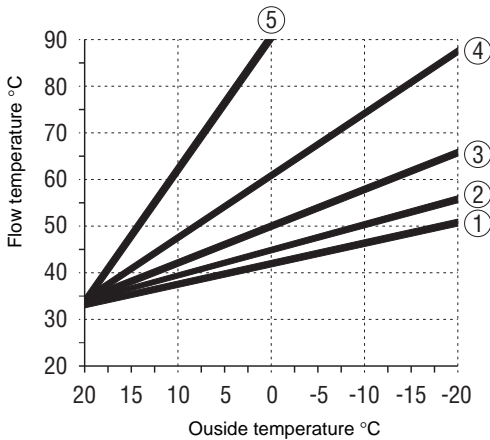

Fig. 19c
7.4.1 Consult the outside compensation graph provided (fig. 19c)